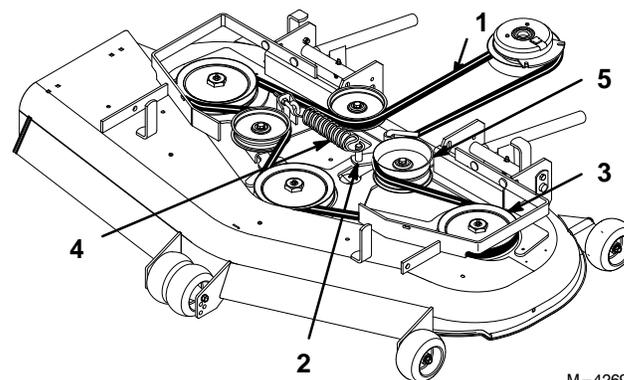

Figure 28
4. Remove belt. Start at outside pulley and rotate off (Fig. 28).
7. Reinstall idler pulley and route belt onto other pulleys (Fig. 28).